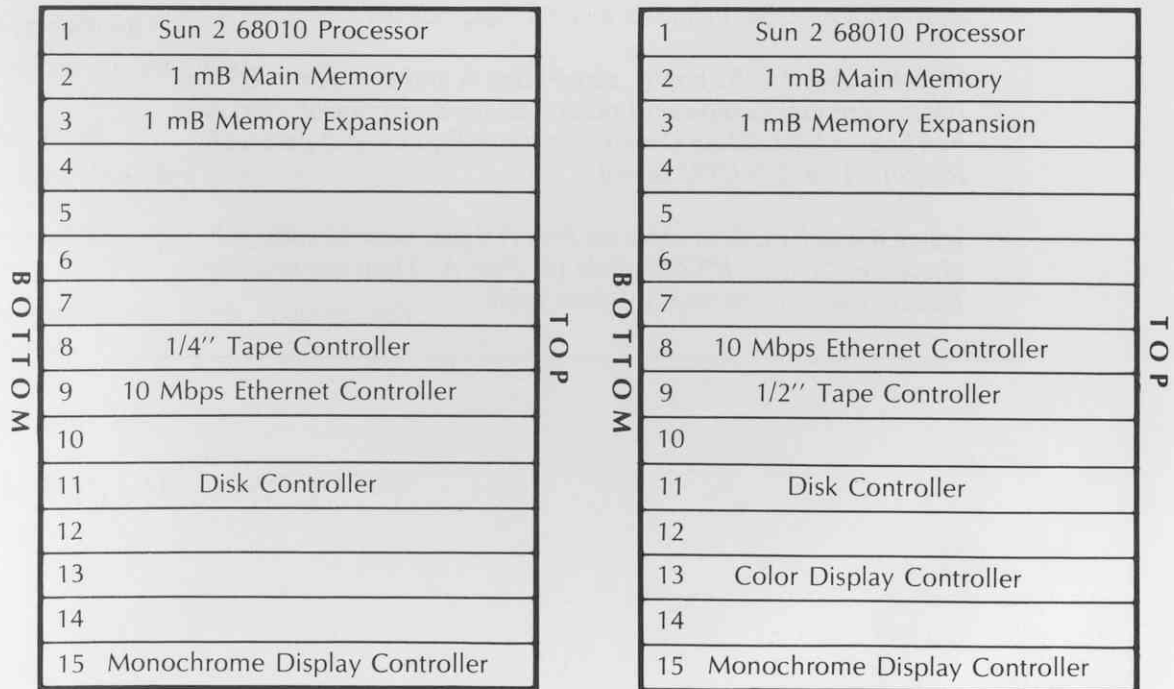

Figure 102 Typical Upgraded Configurations - Model 150
- (1) check that all boards are correctly installed and connected
- (2) run the system self-test
- (3) pack old boards for return to Sun Microsystems
- (4) install the new Sun Unix release
6.47 Figure 102 shows typical upgrade configurations.